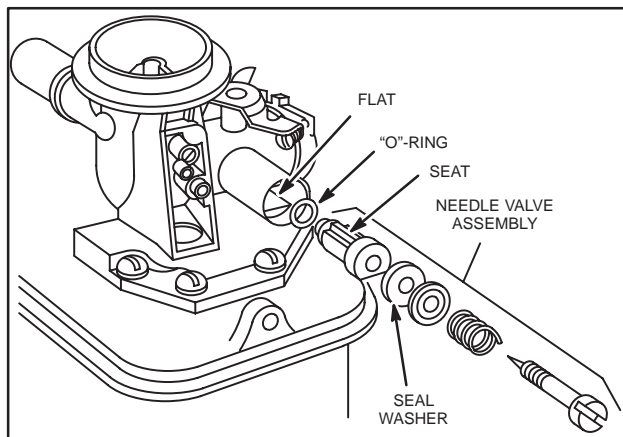

Fig. 168 – NEEDLE VALVE ASSEMBLY PRESS-IN TYPE
2. Turn needle in until large seal washer just touches needle seat, Fig. 168.
4. Install needle valve as an assembly being sure flat on valve seat lines up with flat in carburetor body, Fig. 168.
**NOTE:** On later carburetors, a slot was added to top of needle valve assembly bore to line up with rib on needle valve assembly, Fig. 168.